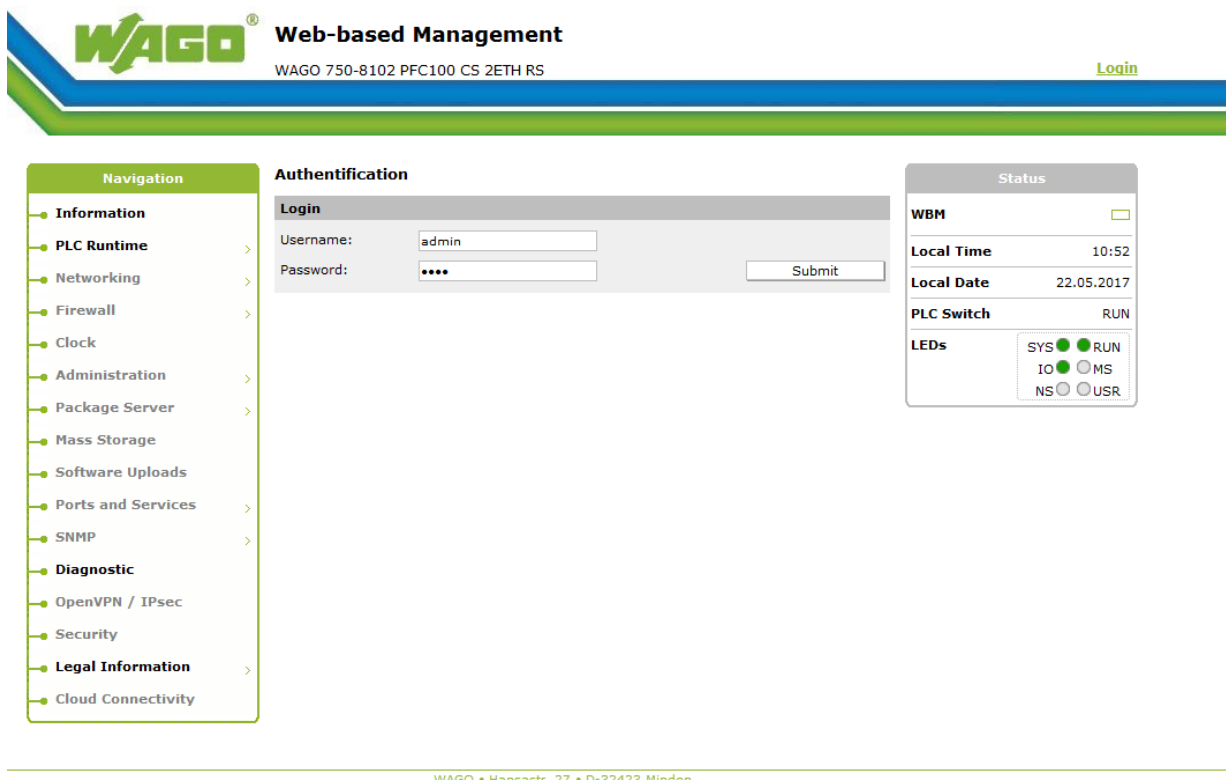

Figure 5-3: WBM Start Page after Installing the Linux Application (.ipk File)
7. Once the installation is complete, reload the window in the Web browser. The WBM page shown in Figure 5-3 should be displayed. The **Cloud Connectivity** menu item has now been added. Please find a description of the Cloud Connectivity configuration for the cloud service in Section 4.